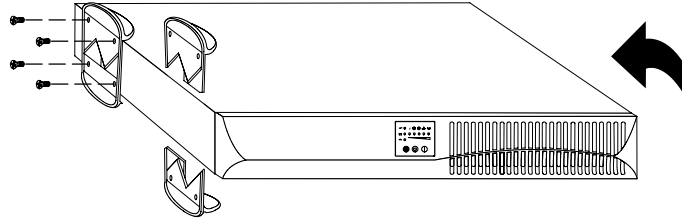

Figure 7. Installing UPS Pedestals (for One Cabinet)
2. Place the UPS cabinet horizontally so that the left end of the cabinet is accessible (see Figure 7).